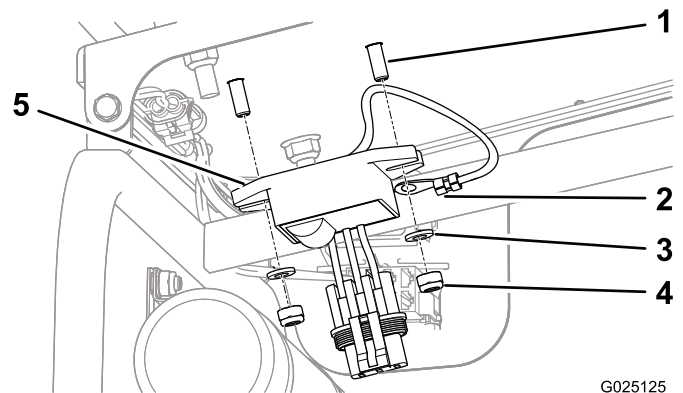

Figure 7
3. On the underside of the seat pan, align the regulator to the screws (Figure 7).
installing an M6 washer and an M6 locknut onto the appropriate M6 x 20 mm screw (Figure 7).
5. Secure the other side of the regulator by installing an M6 washer and an M6 locknut onto the other M6 x 20 mm screw (Figure 7).